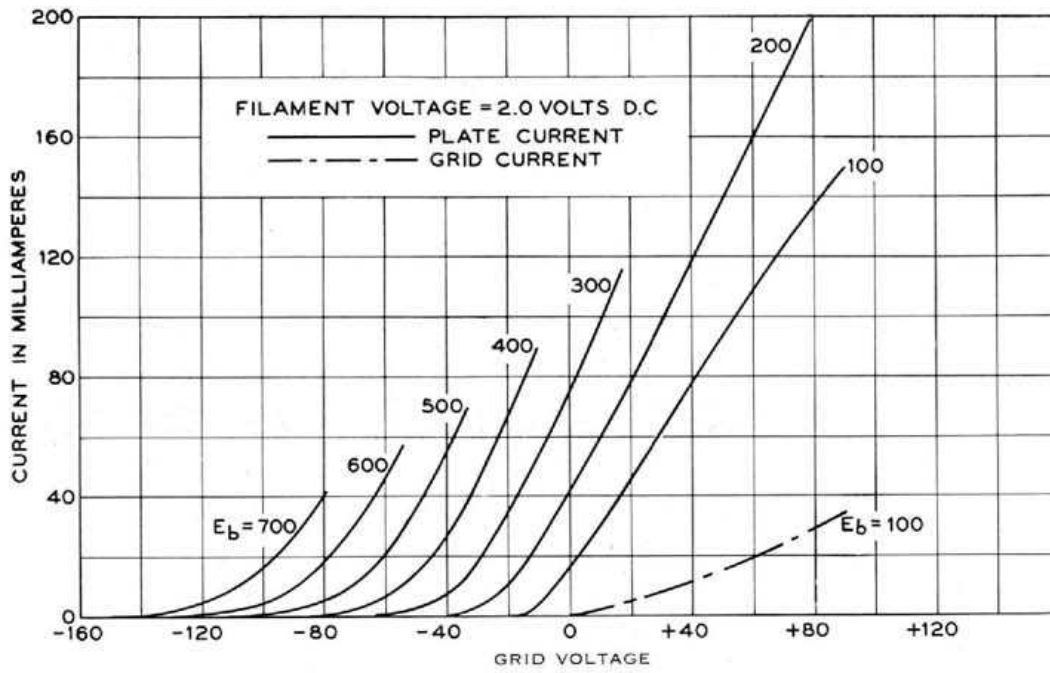

FIG. 4
**Characteristics**—The following performance data are based upon a typical tube. Variations can be expected with different tubes of this type and with different circuits. Figures 4 and 5 give the static characteristics of a typical tube plotted against grid and plate voltages.